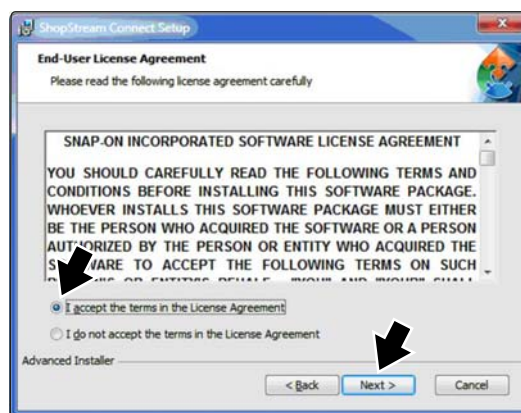

Figure 3-4 Typical License Agreement screen
- c. Select **Next** to continue (Figure 3-4).